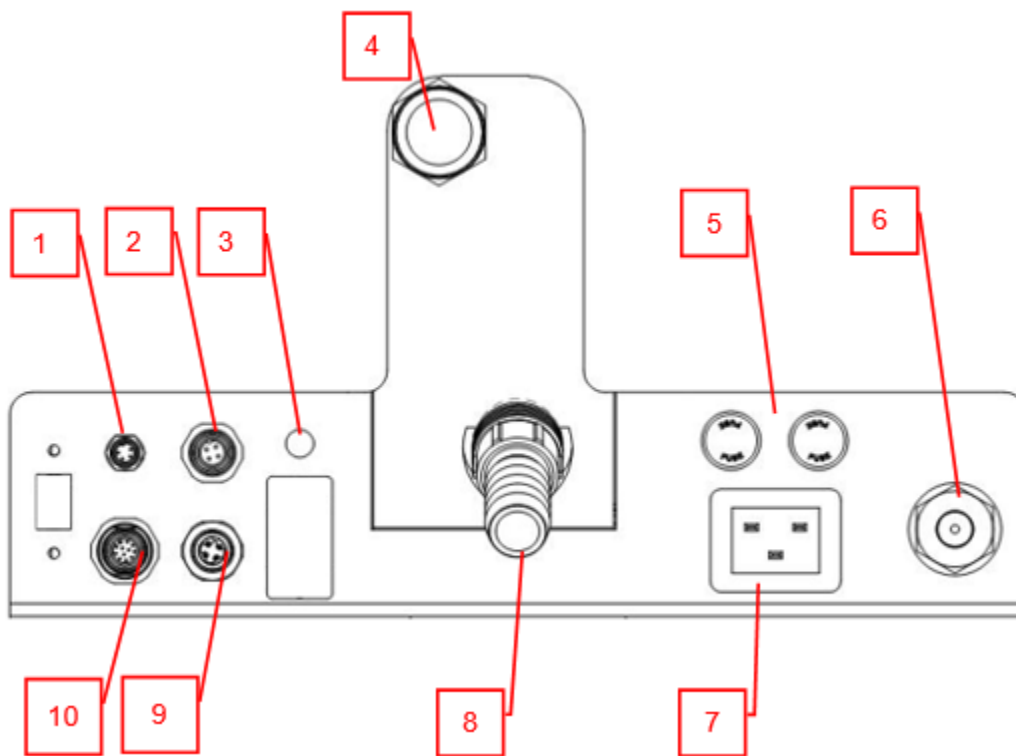

Figure 4: Cee® Apogee® Flange Spin Developer Facilities Connections
3. Connect utilities per the reference diagram in *Figure 4: Cee® Apogee® Flange Spin Developer Facilities Connections*.